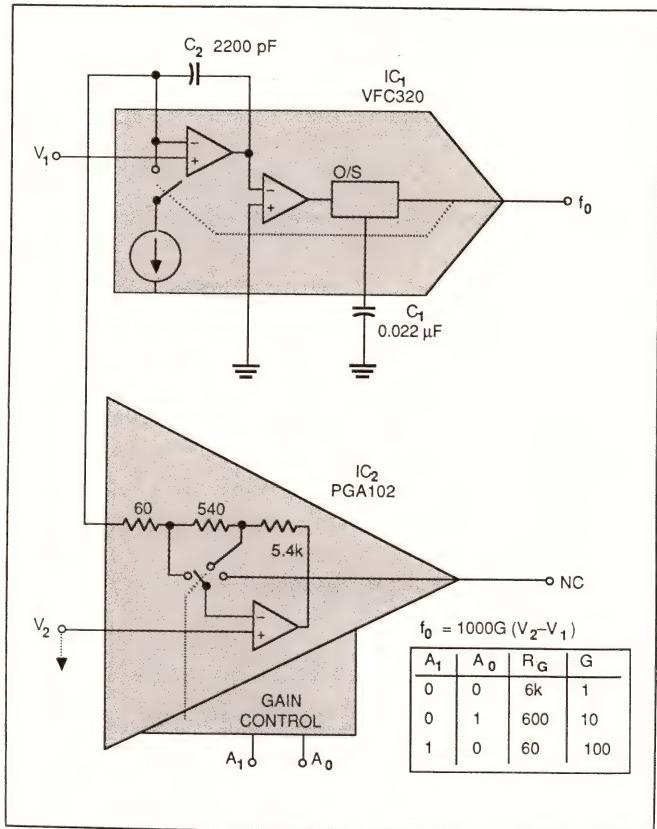

Fig 7—To provide digitally controlled gain to a V/F converter, replace the V/F converter's gain-setting resistor with a programmable gain amplifier.
For lower-speed data-acquisition systems using a V/F converter for A/D conversion, you can perform gain ranging at the V/F converter instead of at the S/H amplifier. Charge-balancing V/F converters let you connect the PGA102 in a manner that produces differential inputs. For example, the VFC320 V/F converter lets you simply replace its gain-setting resistor with a PGA102 (Fig 7).
The circuit in Fig 7 creates a virtual ground at the PGA's inverting input by grounding the V_2 terminal. The PGA then switches the virtual ground to various taps on its feedback network, thus supplying the V/F converter with gain-setting resistors of 60Ω, 600Ω, or 6 kΩ. With these resistor values and the other component values shown, the V/F converter can offer a 4-kHz full-scale-frequency response for inputs of 40 mV, 400 mV, and 4V.
Although the circuit in Fig 7 is simple, it has several limitations. First, the V/F converter's gain-setting resistors are confined to the values available from the PGA's feedback network. Further, those resistors have a 20% tolerance that appears directly as gain error, and you must adjust a capacitor value (C_1) to compensate for this error. What's more, the integrator amplifier's gain-bandwidth product at higher gain levels limits high-frequency operation. The integrator must produce a sharp triangle wave to avoid timing errors, but with increased integrator gain, less loop gain is available to preserve the triangle wave's integrity. As a result, the maximum full-scale frequency is 10 kHz.
You can overcome the limitations of Fig 7's circuit by adding an op amp (IC1 in Fig 8). The op amp buffers the
Fig 8—By adding op amp IC₁ to the circuit in Fig 7, you create an instrumentation-amplifier input without affecting either the circuit's frequency range or its digital-gain-control capabilities.
Like the circuit in Fig 7, this circuit has high-impedance differential inputs. With its various gains, the PGA presents a prescaled signal to the V/F converter's gain-setting resistor (R); the common-mode signal characteristics remain the same as in Fig 7. The circuit's nonlinearity is 0.015%, and you can trim its input offset error to 0.5 mV.